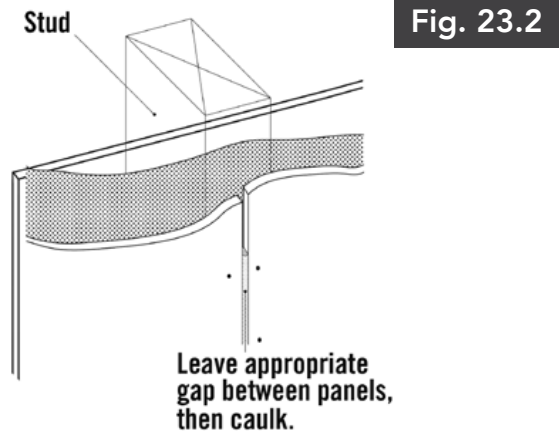

Fig. 23.2
- Leave appropriate gap and caulk according to caulk manufacturer's recommendations. (Fig. 23.2)